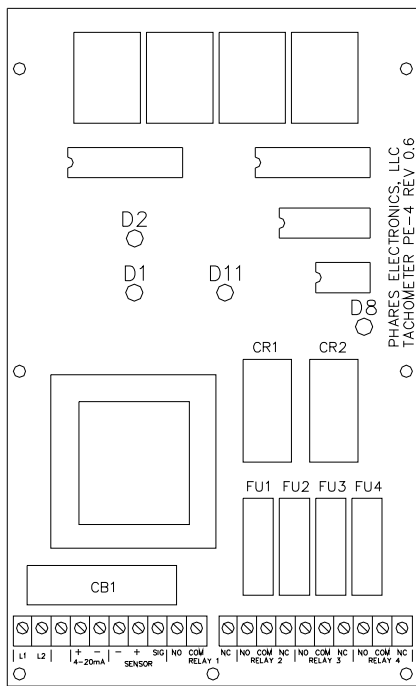

Figure 2. Tachometer Circuit Board
**1. Check Power** – There is a 5 and 12 Volt DC voltage regulator on the circuit board. Each voltage regulator drives an indicating LED to verify correct voltage. The 12VDC LED (D1) and the 5VDC (D2) should be on bright (See Figure 2. for approximate location on the board). If not, perform the following: